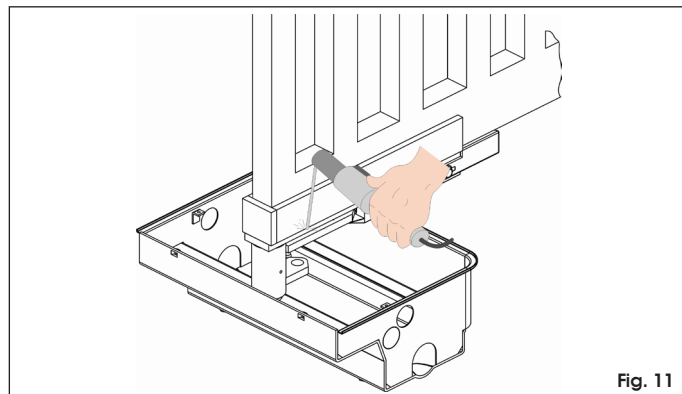

Fig. 11
3. Carefully weld the guide bracket to the support bracket (Fig. 11).